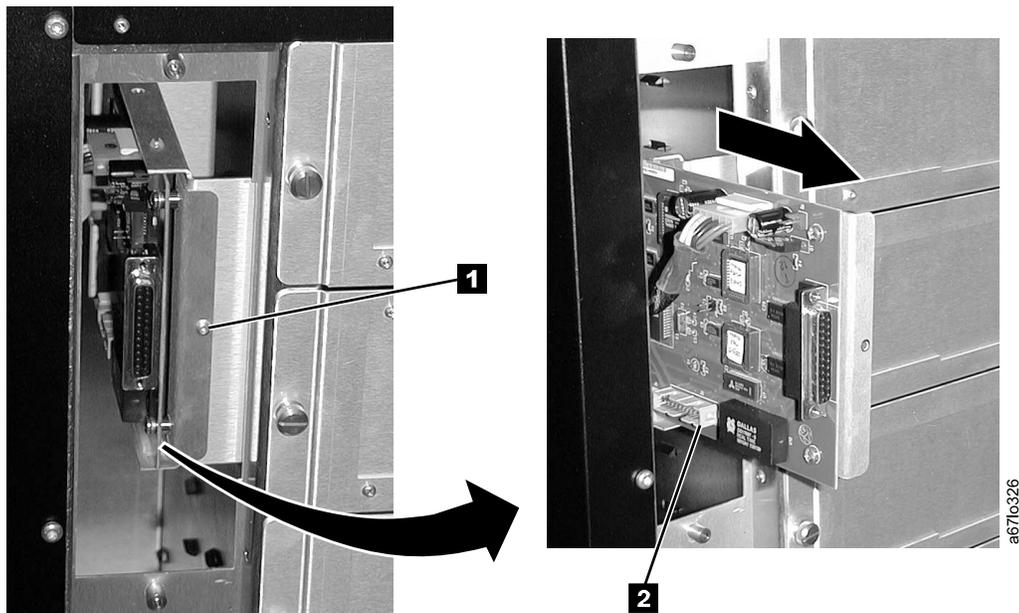

Figure 7-29. Sliding the Main Controller PCBA Out of the Guiding Tracks
7. Remove the T8 Torx screw ( **1** in Figure 7-29) holding the Main Controller PCBA to the library chassis and slide the Main Controller PCBA partly out of the guiding tracks.